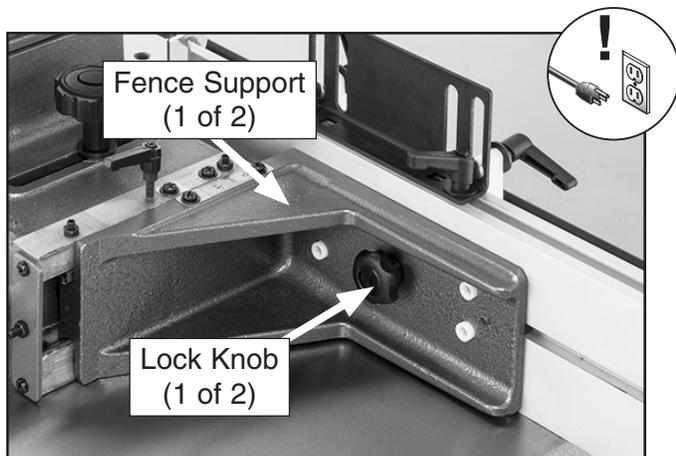

Figure 44. Fence lock knob location.
2. Remove fence faces and mounting brackets from fence supports by loosening fence lock knobs (see **Figure 44**).